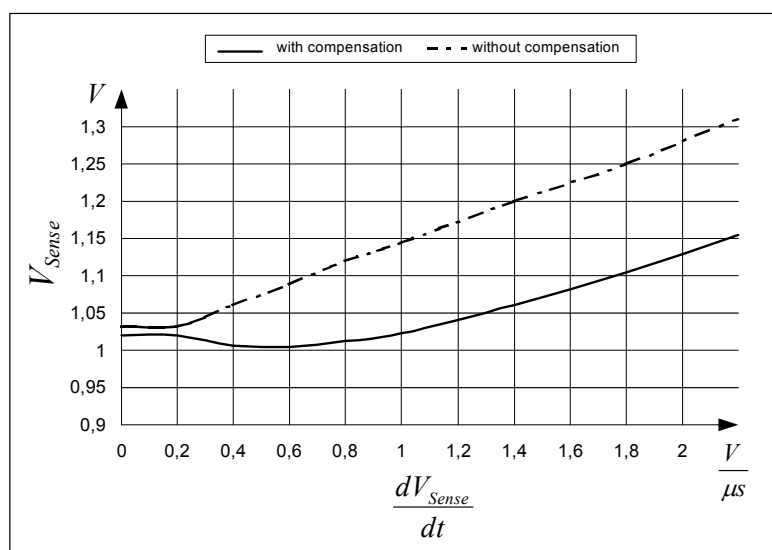

Figure 14 Propagation delay compensation curve
The maximum power of the system is changed with the input voltage; higher voltage got higher maximum power. This is due to the propagation delay of the IC and the different rise time of the primary current under different input voltage. The propagation delay time is around 200ns. But if the primary current rise time is faster, the maximum power will increase. The power difference can be as high as >14% between high line and low line. In order to make the maximum power control become tight, a propagation delay compensation network is implemented so that the power difference is greatly reduced to best around 2%. Figure 14 shows the compensation scheme of the IC. The equation (8) explains the rate of change of the current sense voltage is directly proportional to the input voltage and current sense resistor. For a DCM operation, the operating range for the  $dV_{sense}/dt$  is from 0.1 to 0.7. It can show in Figure 14 that higher  $dV_{sense}/dt$  will give more compensation; i.e. lower value of  $V_{sense}$ .